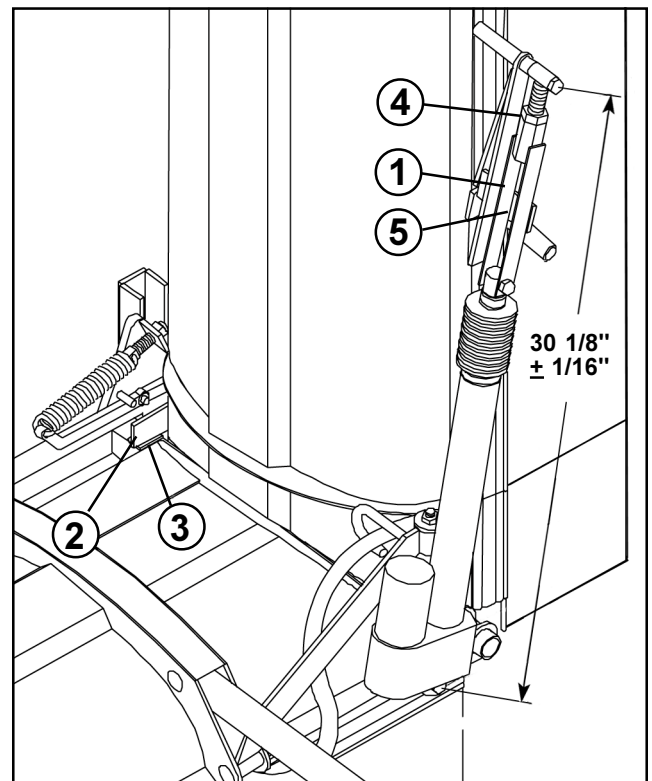

FIG 15
6. Measure the length of the Actuator and Adjustment Link. It should be $30\text{-}1/8'' \pm 1/16''$ from the center of the Actuator Bolt to the center of the Adjustment Link Bolt. (FIG. 15)